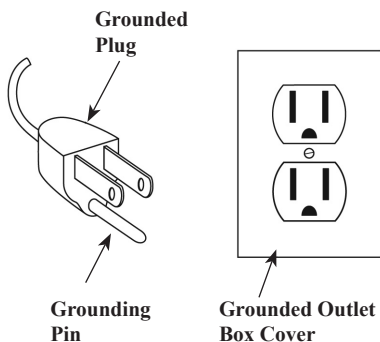
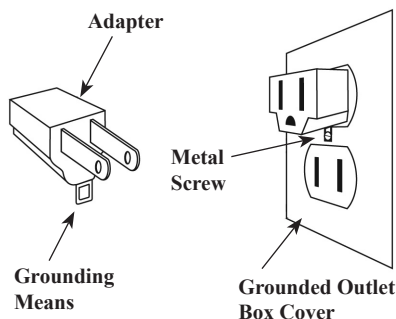

FIGURE 1
FIGURE 2
The cord has a grounded plug as shown in Figure 1. An adapter, (not included) as shown in Figure 2, is available for connecting three-blade grounding-type plugs to two-slot receptacles. The green grounding lug extending from the adapter must be connected to a permanent ground such as a property grounded outlet box. The adapter should not be used if a three-slot grounded receptacle is available.
1. To replace the fuse, first turn the unit off and unplug it from the wall. Locate the door on top of the plug. Figure 1.
2. Slide the door on top of the plug towards the blades. Figure 2.